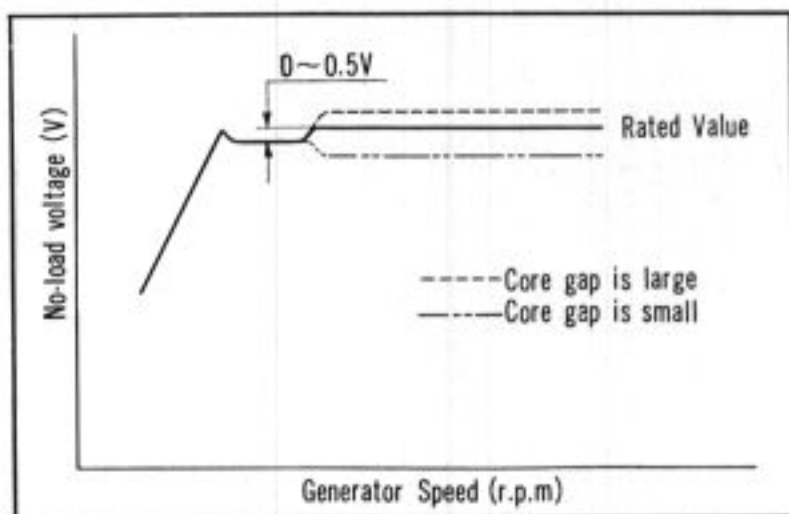

Fig. 2M-19
9. Generator voltage after completing adjustment is as shown in Fig. 2M-19. When generator operation is changed from low speed (with the lower contact actuated) to high speed (with the upper contact actuated), there is a voltage fluctuation. This voltage change does not matter. Approximately 0.5V voltage rise is desirable in the adjustment.